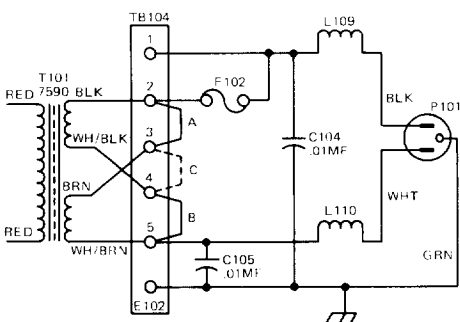

Figure 2. Converting to 240V, 50/60 Hz
3. Remove strap 'A' connecting terminals 2 and 3, and remove strap 'B' connecting terminals 4 and 5; then solder strap 'C' to terminals 3 and 4 (see Figure 2).